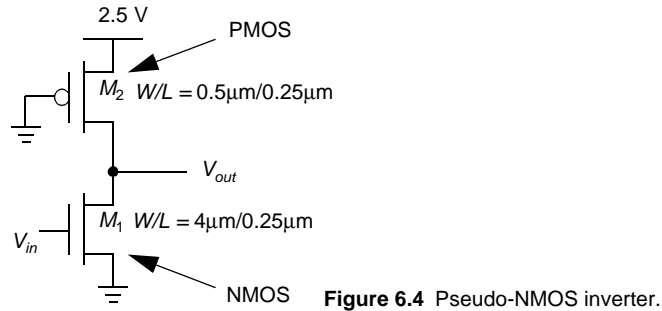
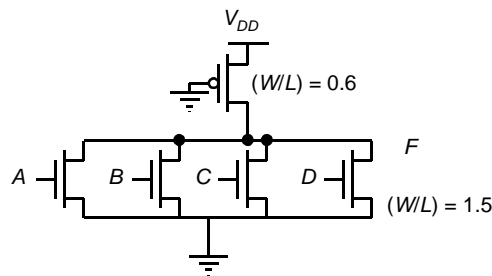

Figure 6.4 Pseudo-NMOS inverter.
Figure 6.5 Pseudo-NMOS gate.
7. [E, None, 4.2] Compute the following for the pseudo-NMOS inverter shown in Figure 6.4:
- c. The power dissipation: (1) for  $V_{in}$  low, and (2) for  $V_{in}$  high
8. [M, SPICE, 4.2] Consider the circuit of Figure 6.5.